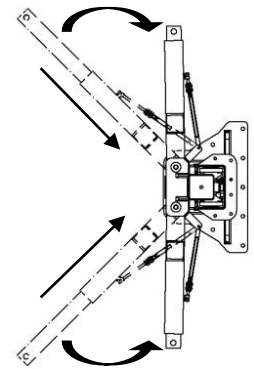

FIGURE 16 : SWING ARMS POSITION
2. RETRACT THE EXTENSION OF THE SWING ARMS TO THE MINIMUM AND OPEN AS FAR AS POSSIBLE TO CLEAR THE SPACE BETWEEN THE COLUMNS. SEE **FIGURE 16**.
13. RETRACT THE EXTENSION OF THE SWING ARMS TO THE MINIMUM AND OPEN AS FAR AS POSSIBLE TO CLEAR THE SPACE BETWEEN THE COLUMNS. SEE **FIGURE 16**.
1. RETRACT THE EXTENSION OF THE SWING ARMS TO THE MINIMUM AND OPEN AS FAR AS POSSIBLE TO CLEAR THE SPACE BETWEEN THE COLUMNS. SEE **FIGURE 16**.